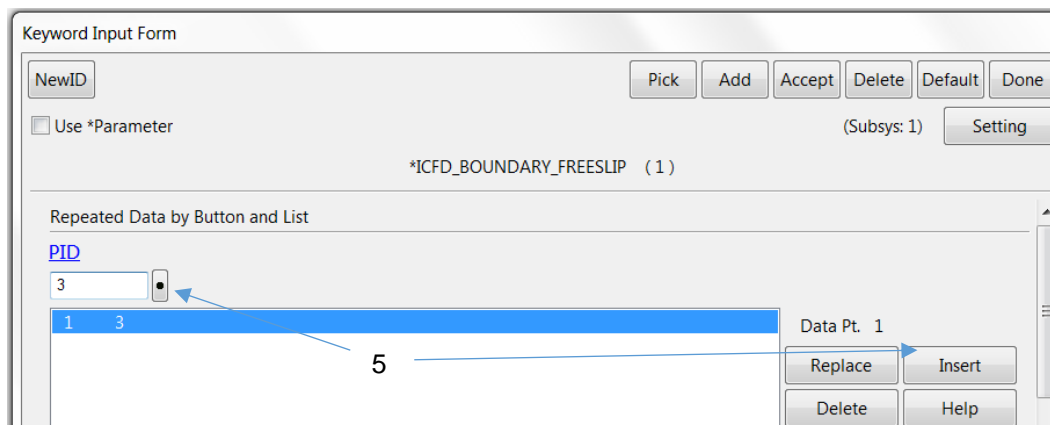

Figure 12 `*ICFD_BOUNDARY_FREESLIP` keyword
5. The remaining boundary condition is for the surroundings where we will use the free-slip condition, which means that the tangential velocity will be non-zero. Select the keyword `*BOUNDARY_FREESLIP` in the keyword manager and then select part 3 and press insert, finish with pressing Accept and Done, see Figure 12.